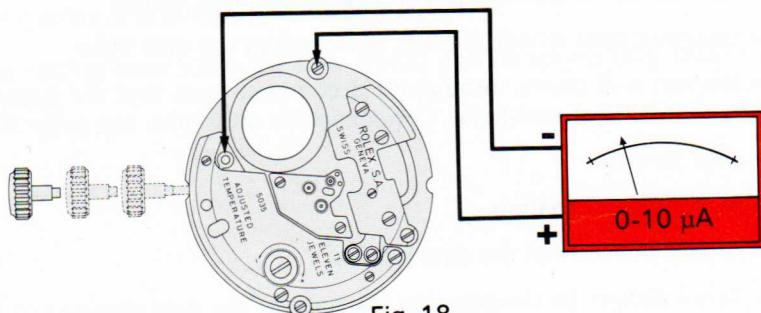

Fig. 18
- 9.19. Fit the handsetting stem in position 3 (no current supply to motor) and measure the consumption of the electronic module (Fig. 18) which should be  $\leq$  to 3  $\mu\text{A}$ .